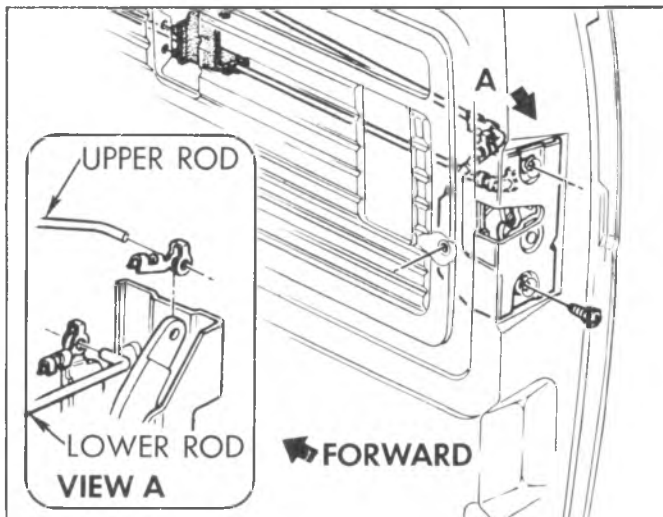

Fig. 2D-121--Sliding Door Rear Latch
3. Disconnect rear latch rods from front latch assembly, shown in figure 2D.
4. Remove rear latch attaching screws. See figure 2D-121.